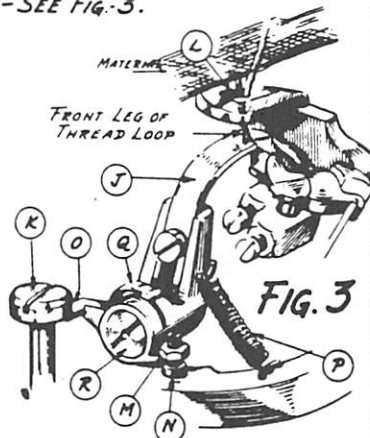

FIG.3
TRIMMING KNIFE STOP POSITION.— THE STOP POSITION GOVERNS THE EXTENT OF MOVEMENT AT THE POINT OF TRIMMING—SEE FIG.3.
IF FOR ANY REASON IT IS DESIRED TO REMOVE TRIMMING MECHANISM TO FACILITATE LOOPER ADJUSTMENT.— REMOVE SPRING (P) AND RAISE SLIGHTLY SPRING CLIP (Q) FIG.3 AND SLIDE UNIT OFF THE STUD (R).